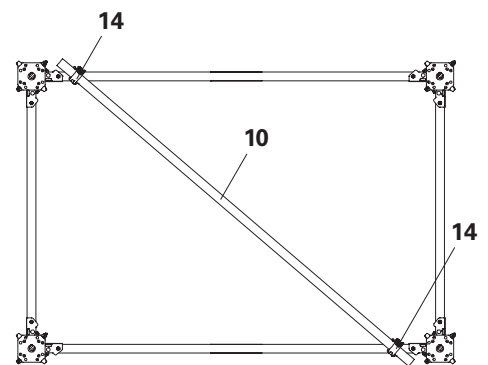

Fig. A3.05
- With larger units, the upper MULTIPROPS MP (1) can be inserted individually. Connect the MULTIPROPS MP (1) to each other before connecting to the Frames MP MRK (2).
- For towers with heights >7.0 m, connect a Scaff. Tube $\text{Ø}48.3 \times 3.2$ mm (10) as a horizontal brace at half the tower height to the Frames MP MRK (2) using Swivel Couplers AF $\text{Ø}48/48$ mm (14) to ensure that the cross-sectional shape is maintained. (Fig. A3.05)
1. Brace the tower in the centre with a horizontal brace, see Fig. A3.05.